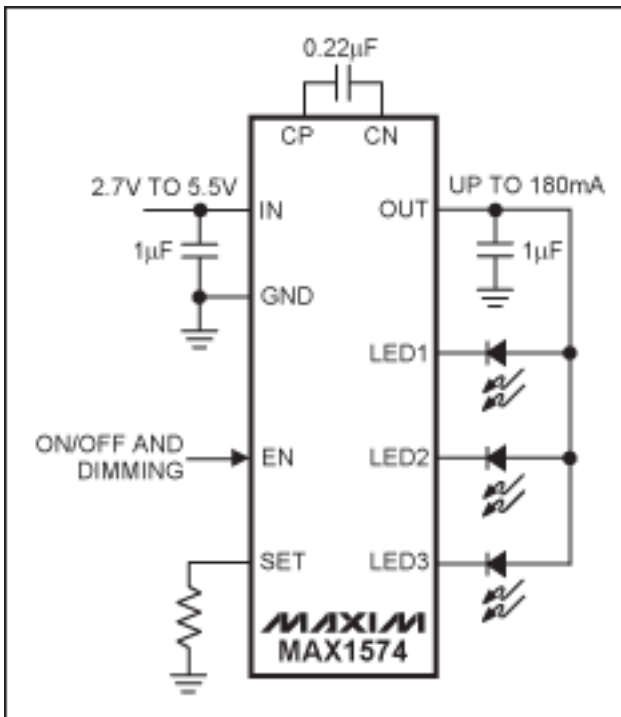

Figure 8. Integrated charge pump with one group of LED current sources.
**Figure 8** shows a MAX1574 charge pump driving 3 LEDs at up to 180mA total output. The 1MHz switching rate allows use of small ceramic capacitors in the charge pump.